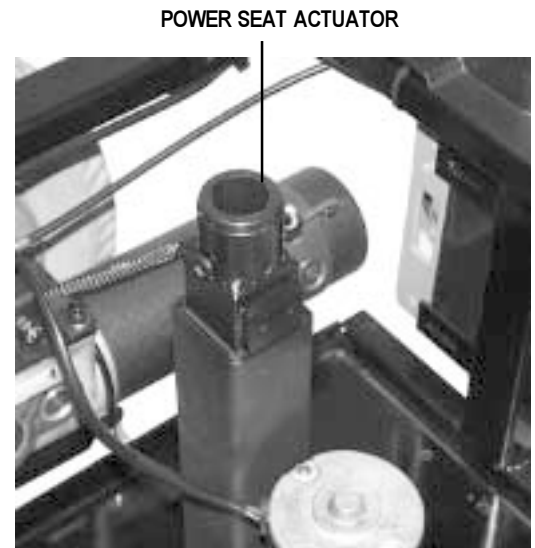

Figure 15. Power Seat Actuator
1. Align the seat shaft to the hole in the actuator. See figure 15.